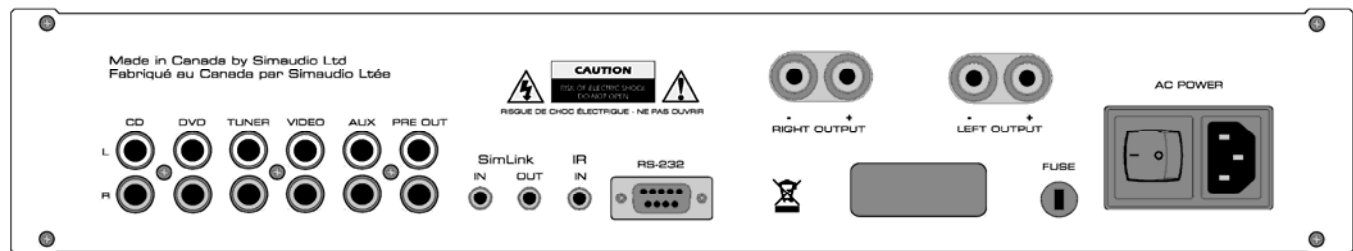

Figure 2: MOON i-1 Rear panel
The rear panel will look similar to Figure 2 (above). There are five (5) pairs of single-ended inputs on RCA connectors labeled CD, DVD, TUNER, VIDEO and AUX. The left channel inputs are located on top and the corresponding right channel inputs are located directly below.